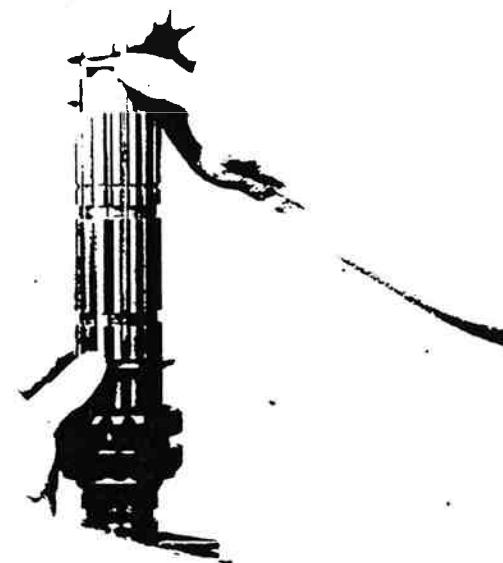

Figure 13-118. 2nd Speed Washer Installation.
5. Remove key and install 2nd speed gear washer, flat side up, next groove of mainshaft. Rotate washer to align splines of washer with those of mainshaft and reinsert key (figure 13-118).